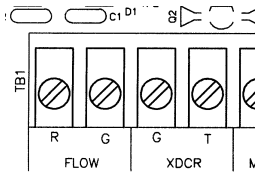

Figure 3.1
2. Connect the transducer cable connector to the terminal locations on the lower left corner of the D601 main circuit card. See **Figure 3.1**.